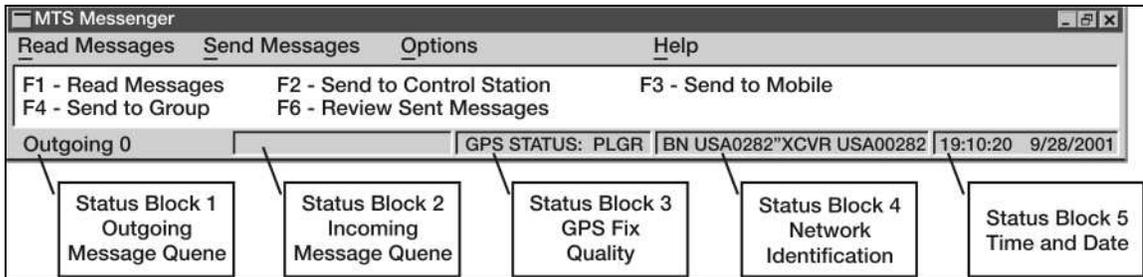

Figure 3-29. MTS Messenger Main Window
3. Start MTS Messenger (see Figure 3-29).